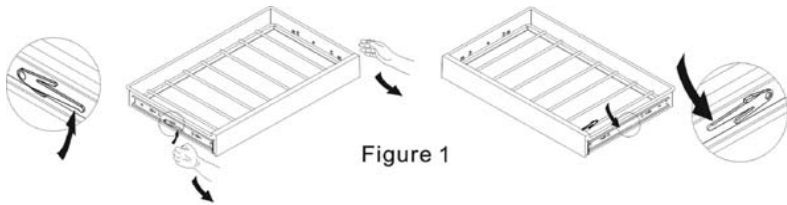

Figure 1
2. Pull out the racks and press the black tongues on each side. (See figure 1)